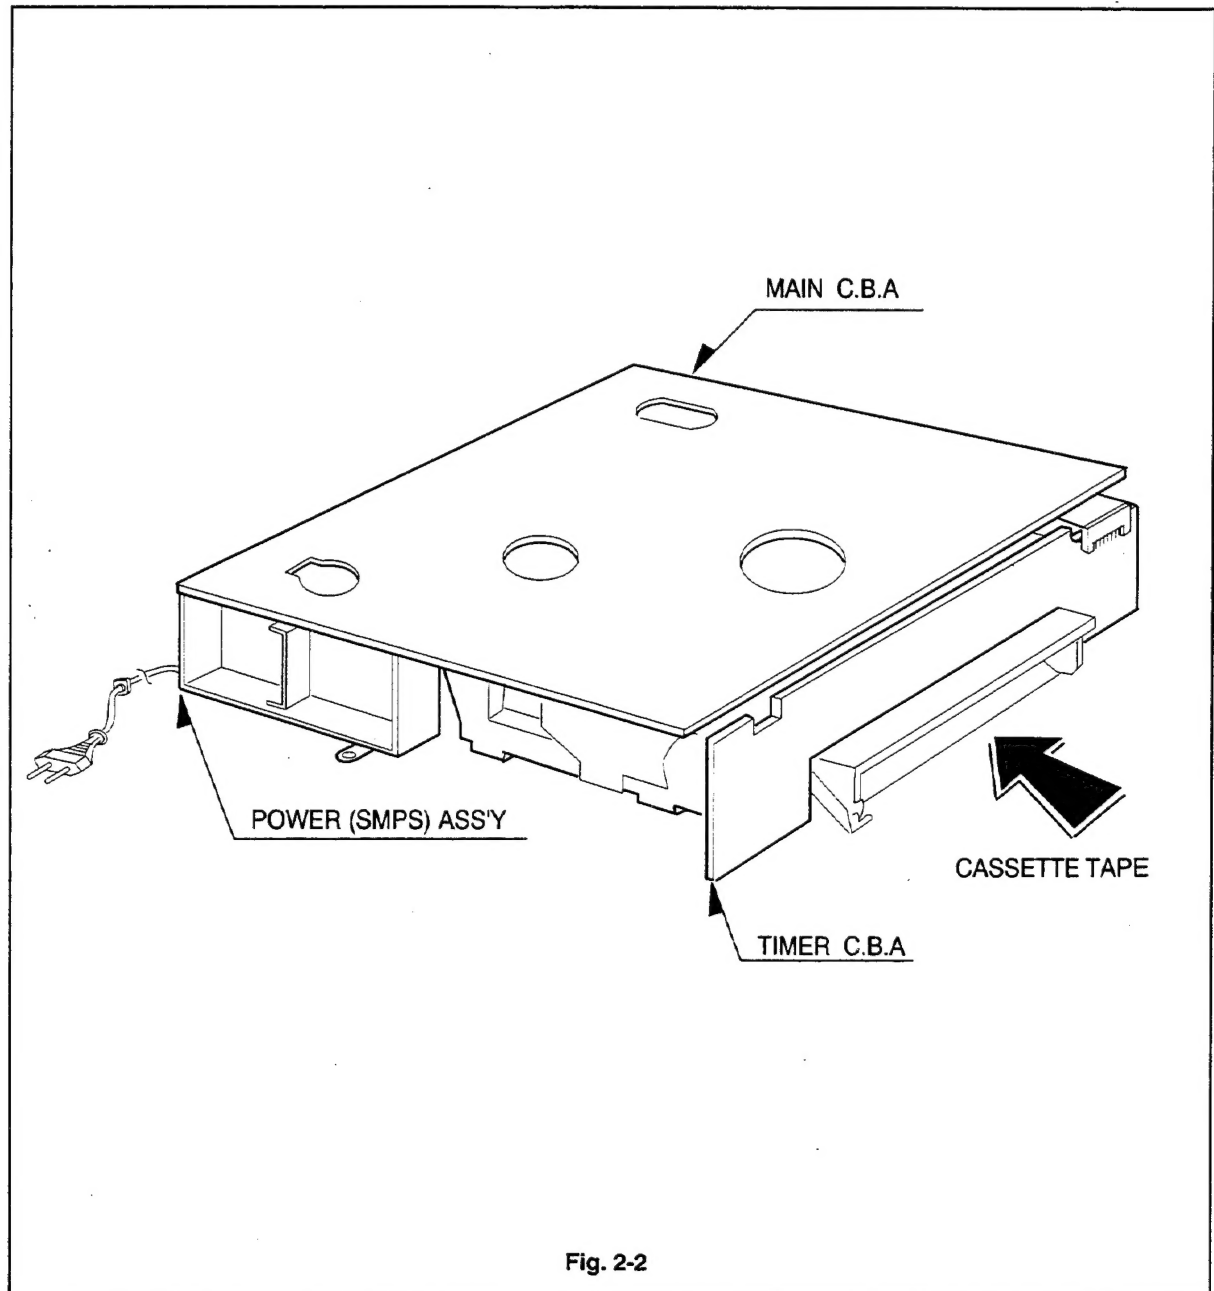

Fig. 2-2
- b. Assemble inversely like figure 2-2, and check the electrical Parts.